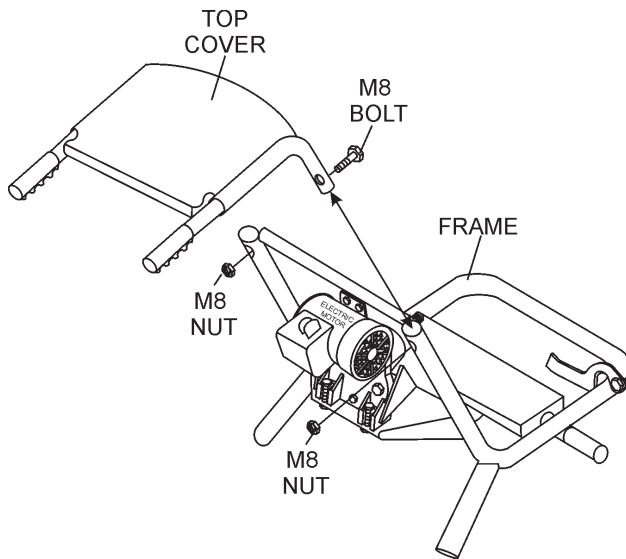

Figure 7. Top Cover Placement
2. Place the mixer frame on a secure level surface, and attach the top cover as shown in Figure 7.